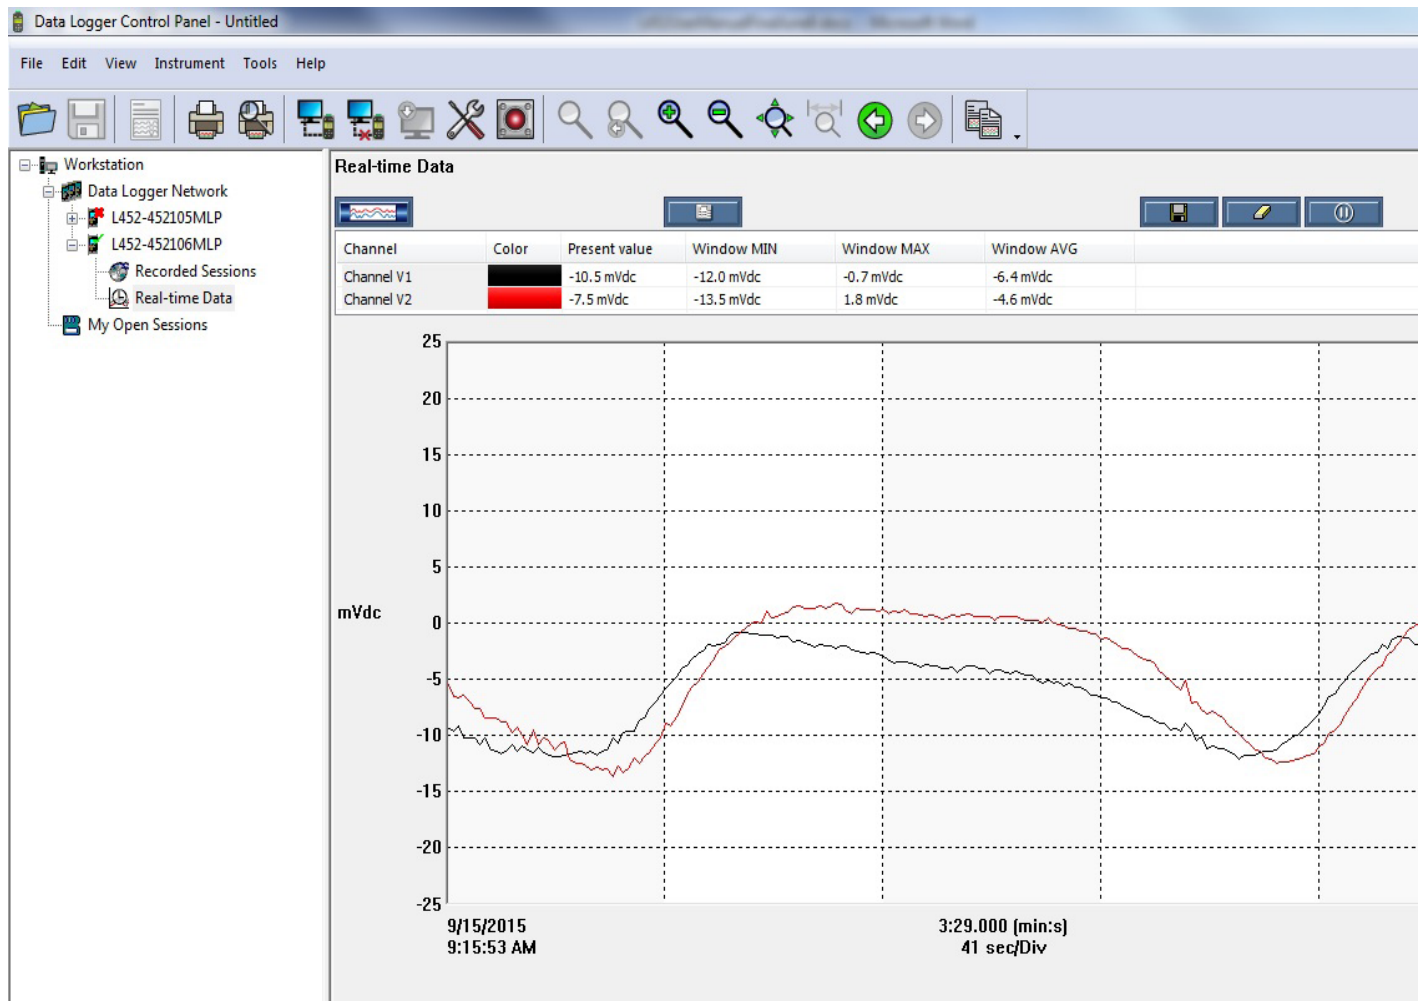

Figure 42. Data Logger Control Panel (instrument connected)
2. With the Model L452 connected, open the Data Logger Control Panel (see Figure 42).